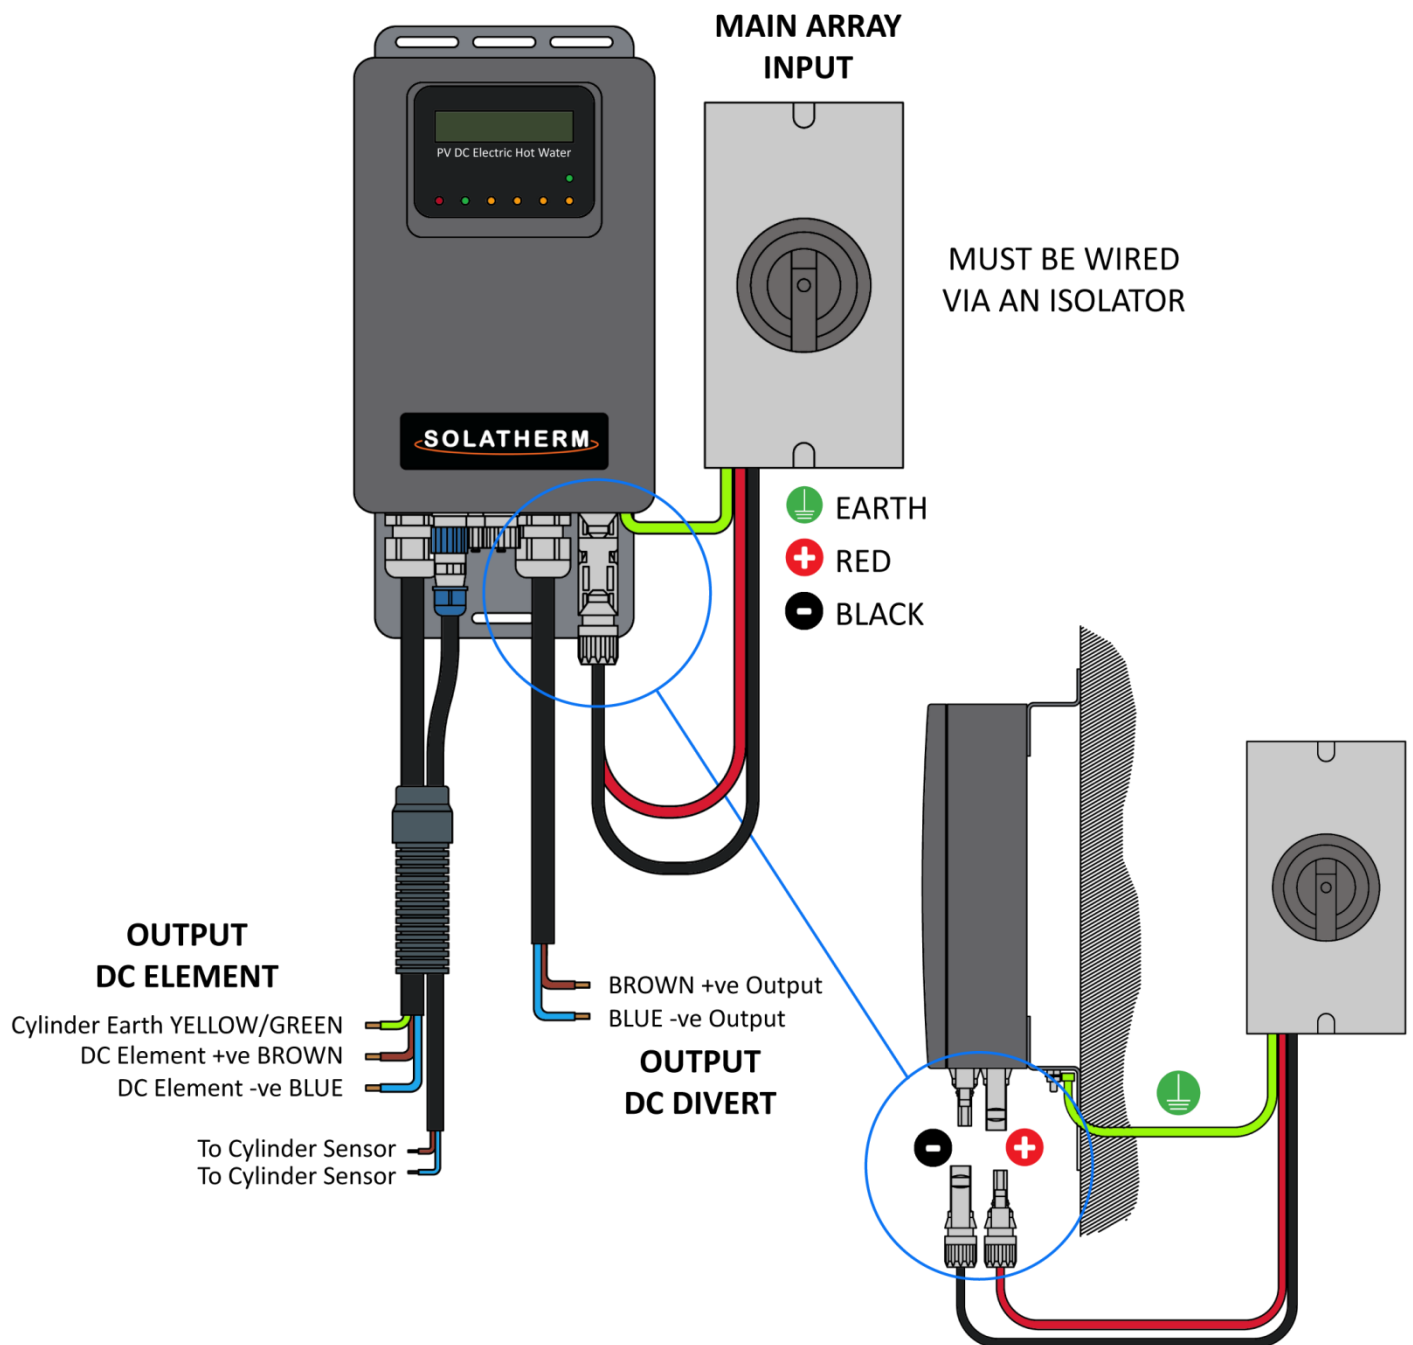
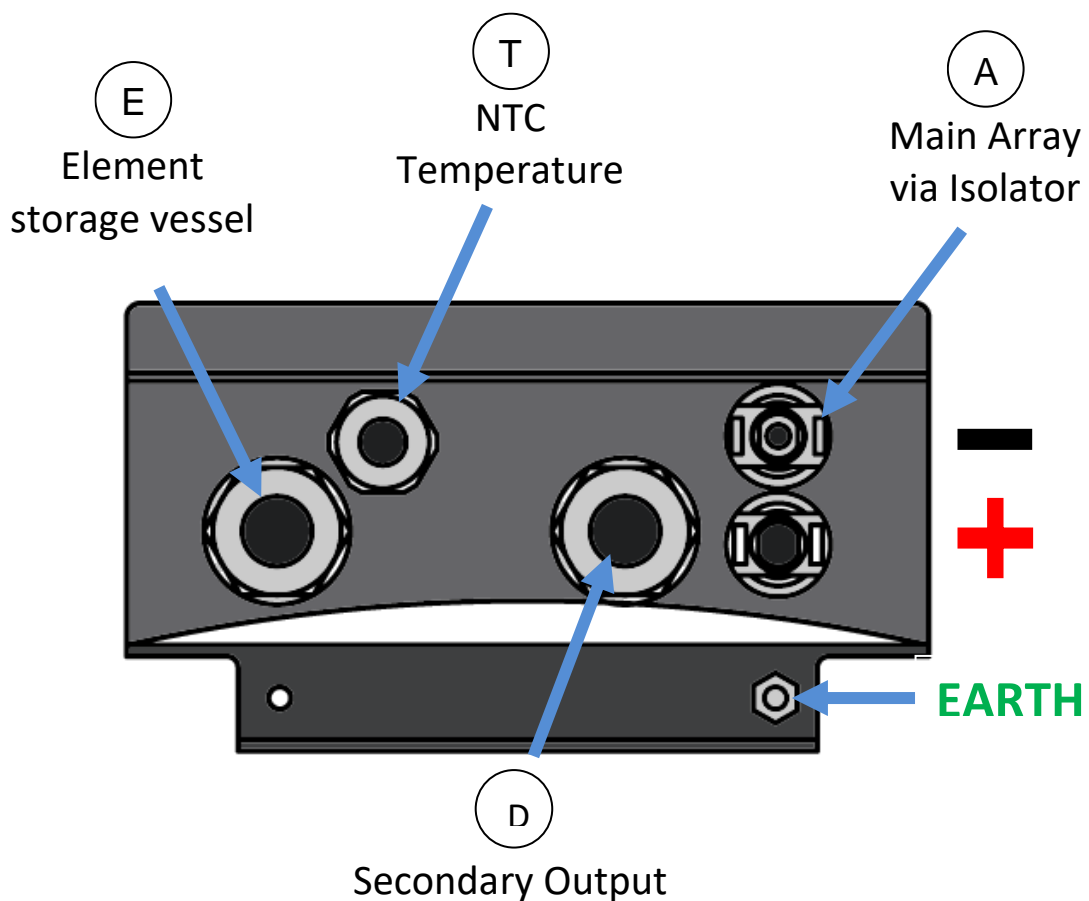

Figure 3.
Figure 9.
**See Wiring Diagram - Controller - Figure 3**
1. Terminate the 400mm long output diversion cable (D) into Isolator and direct to auxiliary device as required.
**See Wiring Diagram - Controller - Figure 3 and Figure 9.**